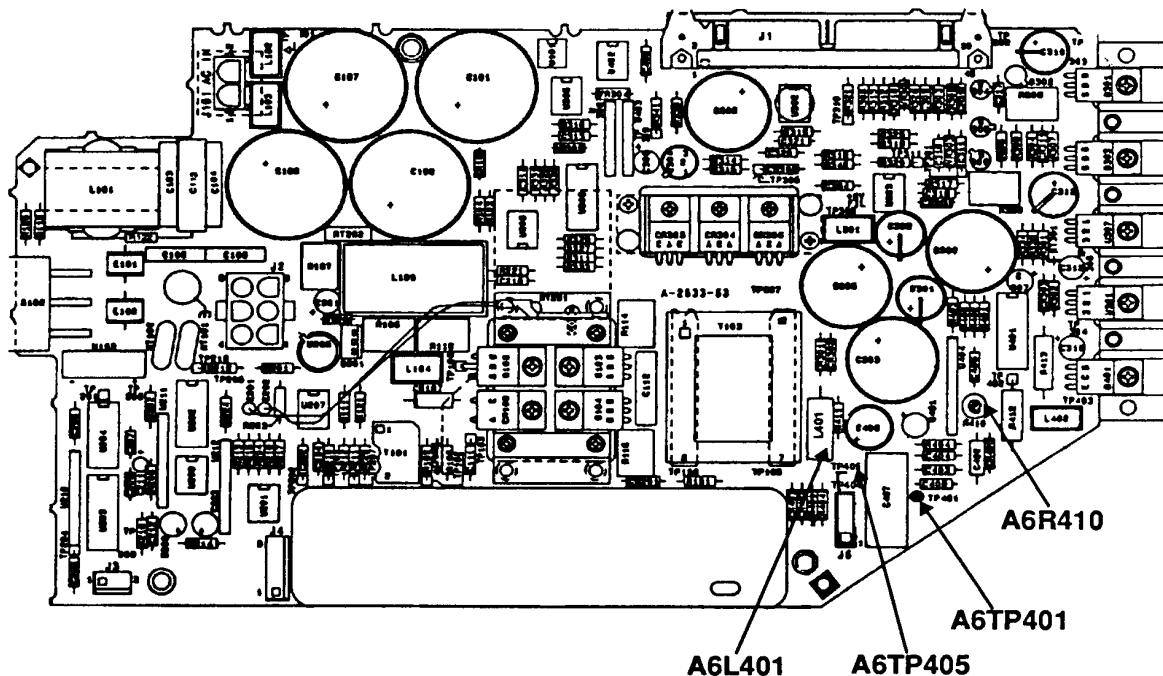

Figure 6. Power supply location sheet.
- (2) Remove A6 power supply cover.
- (3) Set multimeter to measure 1000V dc.
- (4) Connect multimeter **INPUT HI** to A6TP405 (fig.6) and **INPUT LO** to A6TP401 (fig. 6).
- (5) Record dc voltage marked on A6A1 HV module (located at TI top).
- (6) Note the value of inductor A6L401 (fig. 6). If A6L401 (fig. 6) is 10 mH, perform (7) and (8) below. If A6L401 (fig. 6) is 20 mH, perform (7) and (9) below.
- (7) Press **TI LINE** switch to **ON**.
Perform (8) below ONLY if A6L401 (fig. 6) is 10 mH.
(8) If multimeter does not indicate a dc voltage equal to 2 V above the dc voltage recorded in (5) above, perform **b** (1) below.
Perform (9) below ONLY if A6L401 (fig. 6) is 20 mH.
(9) If multimeter does not indicate a dc voltage equal to the dc voltage recorded in (5) above, perform **b** (2) below.
(10) Press TI **LINE** switch to **OFF**.
(1) Adjust A6R410 (fig. 6) for a dc voltage equal to 2 V above the dc voltage recorded in (5) above (R).
(2) Adjust A6R410 (fig. 6) for a dc voltage equal to the dc voltage recorded in (5) above (R).